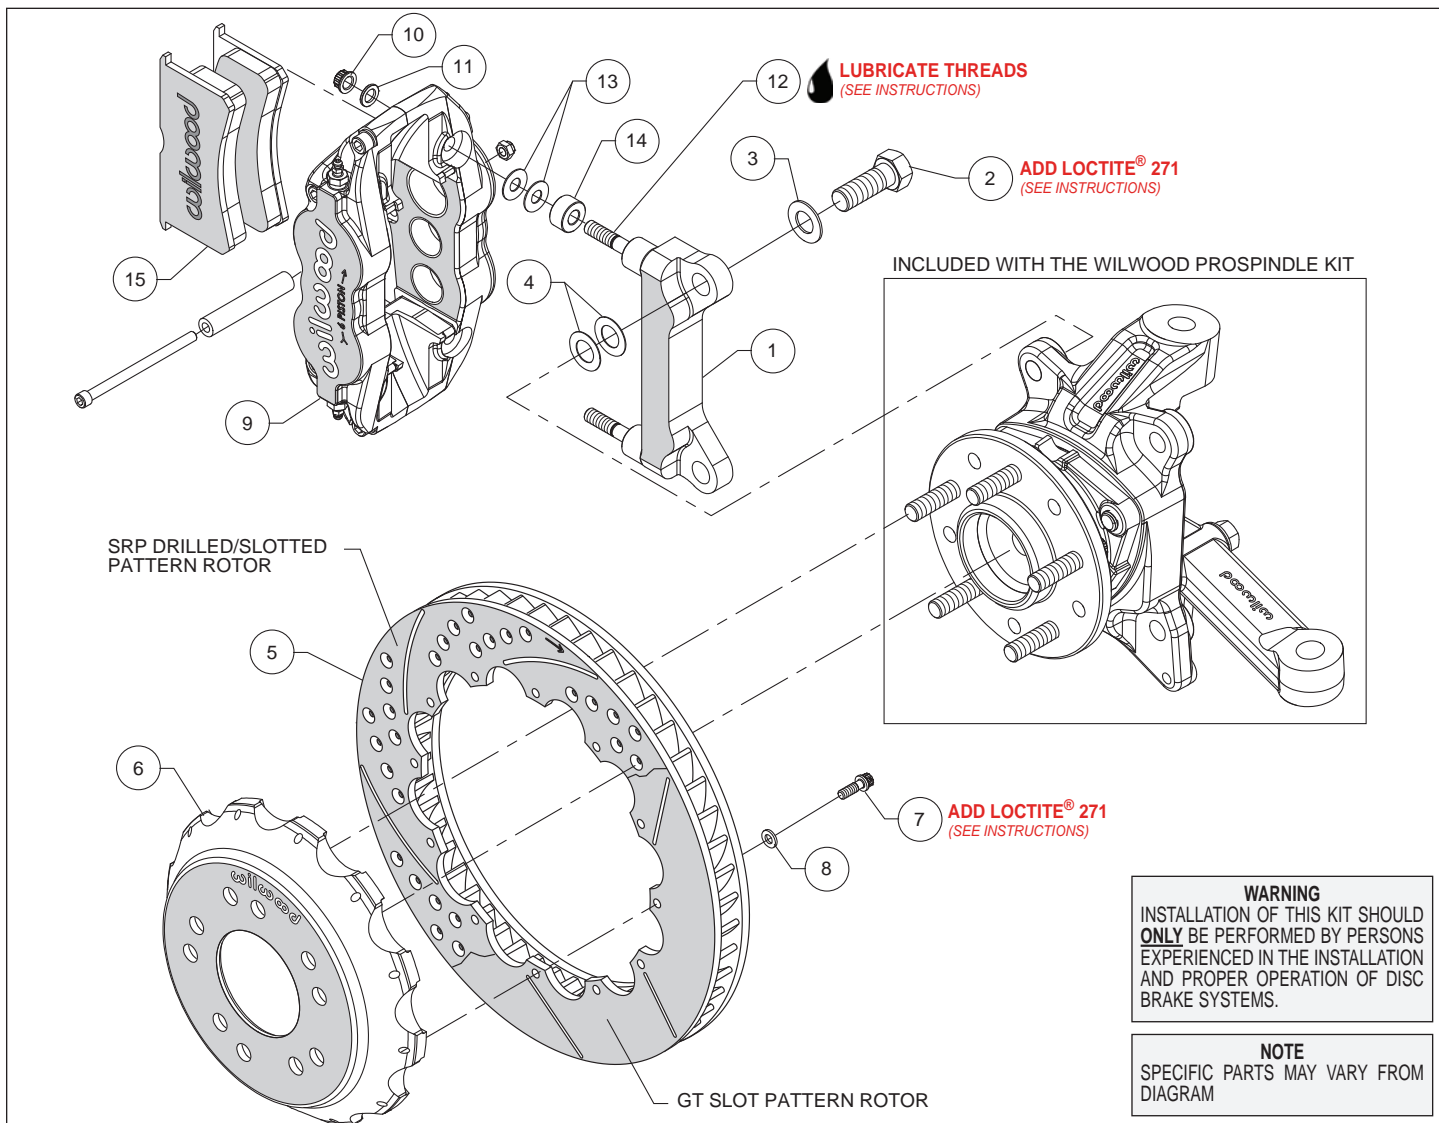
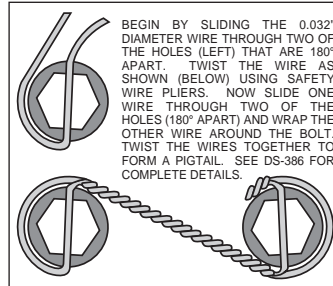

Figure 1. Typical Installation Configuration
Figure 3. Safety Wire Diagram
Assembly Instructions (numbers in parenthesis refer to the parts list and Figure 1 on the preceding pages):
- The caliper mount bracket (1) should initially be installed with clean, dry threads on the mounting bolts. Orient the bracket as shown in Figure 1 and Photo 1 and install using mount bolts (2) and washers (3). Initially place two .024" thick shims (4) on each bolt between the bracket and spindle, Figure 1. Temporarily tighten the mounting bolts. **NOTE:** The bracket must fit squarely against the mounting points on the spindle. Inspect for interference from casting irregularities, machining ridges, burrs, etc. Later, after the caliper alignment has been checked, the mount bolts will be secured using red Loctite® 271.
- Orient the rotor (5) and the hat (6) as shown in Figure 1 and Photo 2. Attach rotor to hat using bolts (7) and washers (8). Using an alternating sequence, apply red *Loctite*[®] 271 to the threads, and torque to 155 in-lbs. For an added measure of security, the bolts may be safety wired using standard 0.032 inch diameter stainless steel safety wire as shown in Figure 3. Please refer to Wilwood's data sheet DS-386 (available at www.wilwood.com/Pdf/DataSheets/ds386.pdf) for complete safety wire installation instructions.
- **NOTE:** This kit contains distinct right and left hand calipers that must be mounted in a specific direction, as described below. Lubricate the caliper mounting studs (12) with lightweight oil. Initially place two .035" thick shims (13) and one spacer (14) on each stud between the caliper and the bracket, as shown in Figure 1 and Photo 5. Mount the caliper (9) onto the bracket (1) using lock nuts (10) and washers (11), Figure 1. Ensure that the caliper is mounted so the largest pistons are at the rotor exit end of the caliper, in relation to the direction of rotor rotation. Temporarily tighten the lock nuts and view the rotor through the top opening of the caliper. The rotor should be centered in the caliper, Photo 6. If not, adjust by adding or subtracting shims (4) between the bracket and the spindle. Always use the same amount of shims on each of the two mounting bolts. Once the caliper alignment is correct, remove the bracket mounting bolts one at a time, apply red *Loctite*[®] 271 to the threads, and torque to 140 ft-lb.